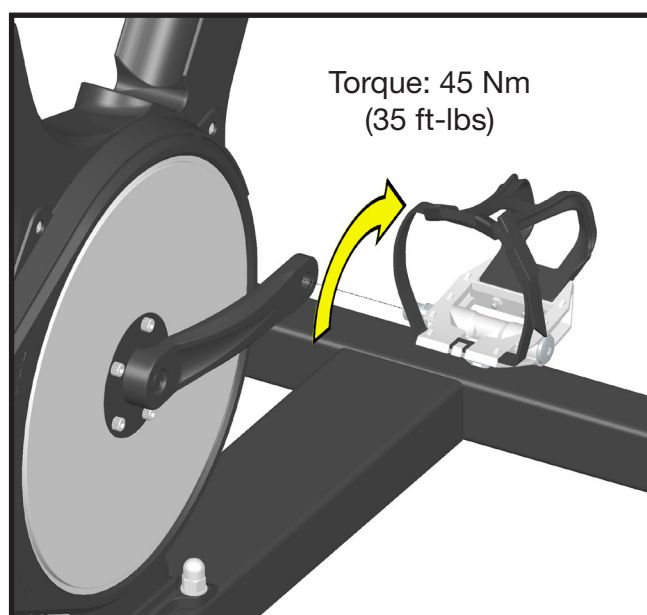

Figure 10. Installing the Right Pedal, Turn Clockwise
5. Right Pedal - Thread the right pedal (marked R) into the right side of the right crank arm by turning it clockwise, refer to Figure 10.